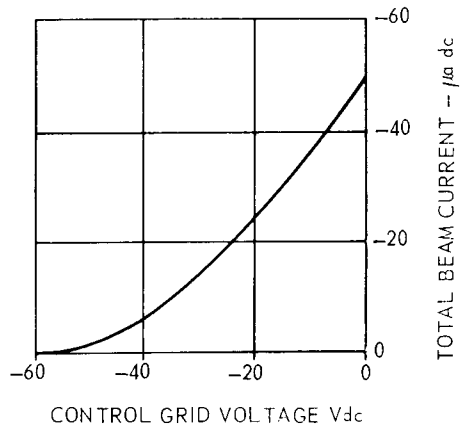

FIGURE 1
- Beam & Cathode Current Transfer Characteristics Figure 1